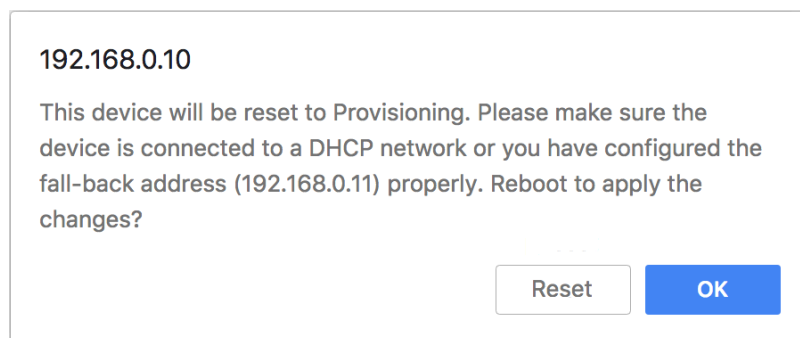

Figure 16. Unit reboot dialog (typical)
- The web browser will show the unit reboot dialog (Figure 16 \(page 49\)).